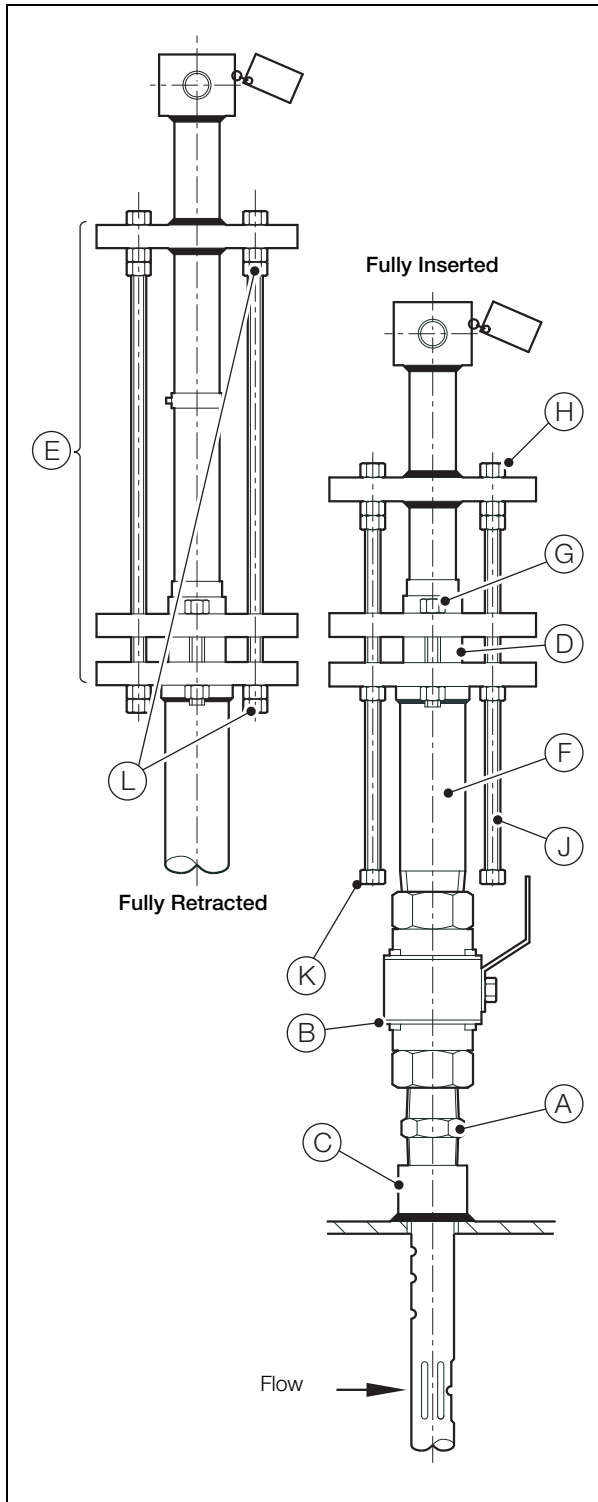

Fig. 2.12 Installation of Threaded Models FPD350.L6.E1 and FPD350.L7.E1
5. Referring to Fig. 2.12:
- a. Apply suitable sealant to the close nipple (A) and isolation valve (B) and fit them to the threaded fitting (C). Tighten securely.
- b. Attach hot-tap drilling equipment to isolation valve (B) in accordance with the manufacturer's instructions.